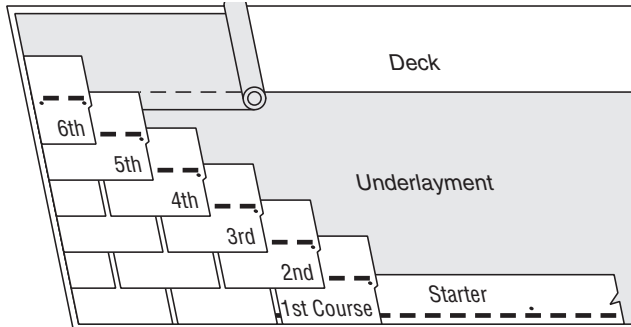

Figure 10-16: Half-Tab Method.
- Continue with full-length starter-strip shingles along the eaves. (*Figure 10-16*).
1ST COURSE: Apply a full shingle at the lower left corner of the roof, tabs flush with the starter course (*Figure 10-16*).
2ND COURSE: Cut 6⁹/₁₆" (half of a tab) off the left end of a shingle and apply the remaining piece over the first-course shingle, flush with the left edge and exposing the first course 5⁵/₈" (*Figure 10-16*).
3RD THROUGH 6TH COURSES: Each succeeding course, up to and including the sixth course, should start with a shingle one-half of a tab (6⁹/₁₆") shorter (cut-off from the left end) than the previous course (*Figure 10-16*). Expose each course 5⁵/₈".